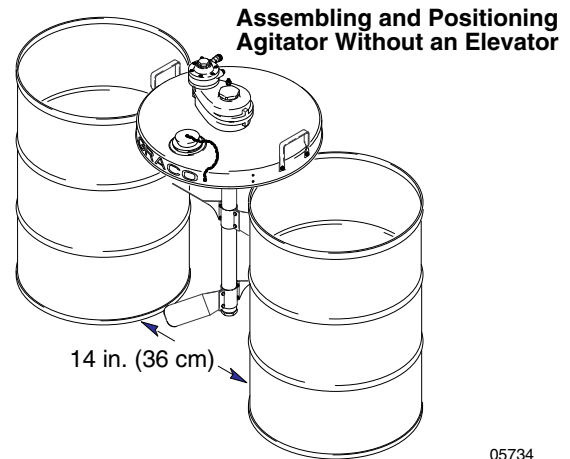

Fig. 2
Place two standard 55 U.S. gallon (45 Imperial gallon) barrels 14 in. (approximately 36 cm) apart, and center the drum cover on the barrels with the Graco logo centered and facing you, as shown in Fig. 2. Proceed to step 1 in **With or Without an Elevator**.
1. Slide the agitator shaft through the large hole in the center of the drum cover (29).
2. Rotate the agitator so that the air motor is to the left of the shaft, as shown in Fig. 2, which will align the three tapped holes in the bottom of the agitator with the three through holes in the drum cover.
3. Thread the three hex head screws (25) up through the drum cover and into the agitator, and torque them to 75 in-lb (8.4 N-m).
4. Assemble one pair of agitator blades (28) so that the four through holes in the blade halves are lined up (see **Parts Drawing** for blade orientation).
5. Push four cap screws (31) through the four holes in the blades, and start the lock nuts (32) onto the cap screws.
7. Tighten the four lock nuts (32) evenly to draw the blades together until they are tight on the shaft. Torque the locknuts to 50 to 55 in-lb (5.6 to 6.2 N-m). A gap will remain between the blade halves.
9. Position the second blade assembly near the bottom end of the shaft, but not on the bottom plug (20).
10. Rotate the lower blade assembly so that it is oriented 90 degrees relative to the upper blade assembly, and torque the lock nuts (32) to 50 to 55 in-lb (5.6 to 6.2 N-m). A gap will remain between the blade halves.